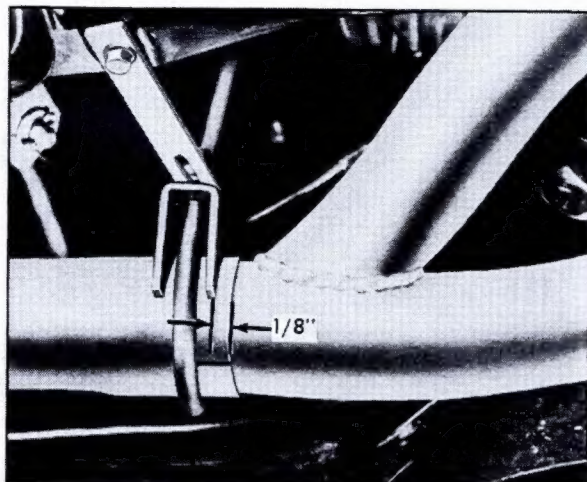

Fig. 8-3 Intermediate Pipe at Exhaust Pipe
3. Secure exhaust pipe and lateral pipe brace to intermediate pipe with clamp. Position clamp so that saddle of clamp is 1/8 inch in from edge of pipe and nuts point upward, Fig. 8-3. Leave nuts loose.
3. Secure intermediate pipe to exhaust pipe with clamp. Position clamp with saddle of clamp 1/8 inch from end of pipe and upward, Fig. 8-3. Leave nuts loose.
4. Position intermediate pipe to exhaust pipe so there is approximately 1/8 inch between saddle of clamp and edge of intermediate pipe, Fig. 8-3. Tighten clamp to 50 foot-pounds.